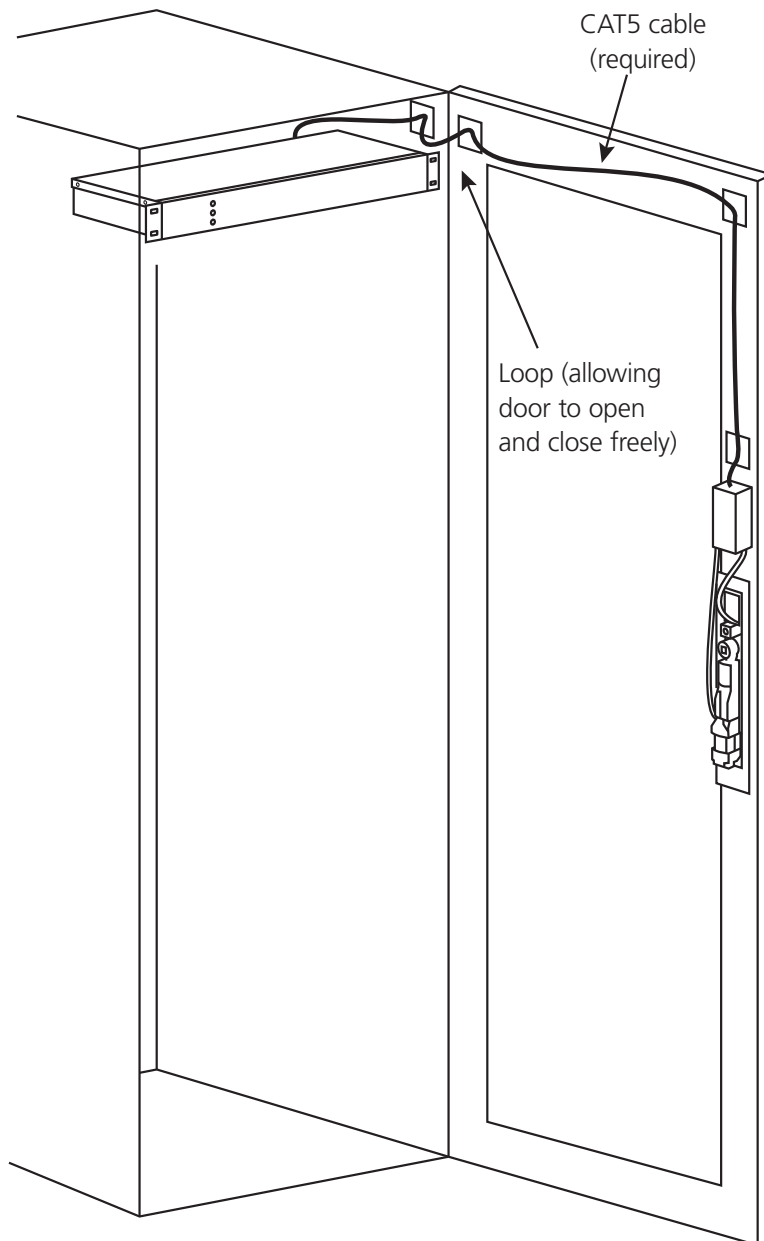

Figure 10. Routing the cable.
- Route the supplied CAT5 cable as shown in Figure 10. Secure the CAT5 cable to the tie-down pads using the supplied cable ties.